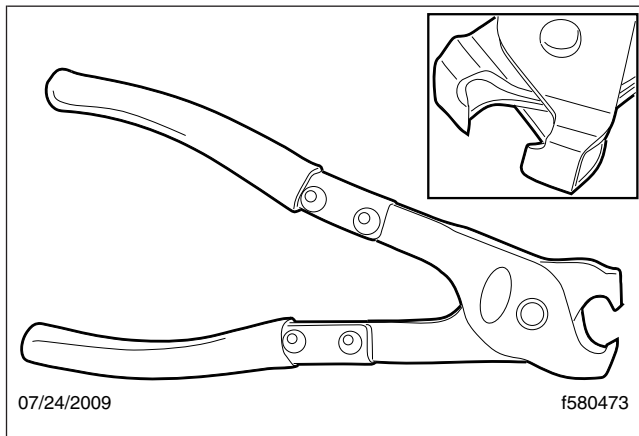
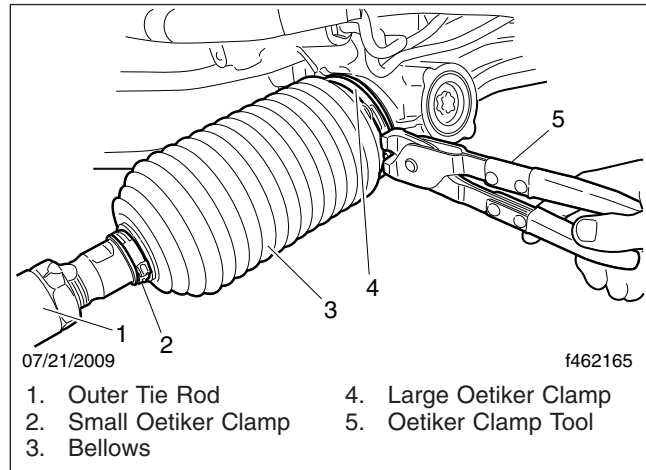
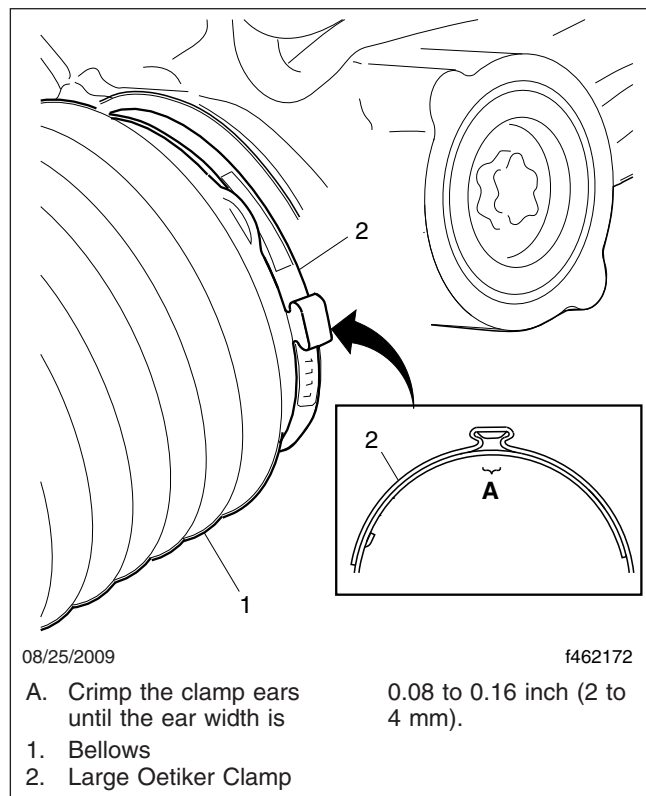

Fig. 10, Oetiker Clamp Tool, P/N 14100037 or 14100082
Fig. 11, Oetiker Clamp Installation
Fig. 12, Oetiker Clamp Ear Width
- 14.3 Using an Oetiker clamp tool like the one shown in Fig. 10, crimp the small and large Oetiker bellows clamp ears until the ear width is 0.08 to 0.16 in (2 to 4 mm). See Fig. 11 and Fig. 12.